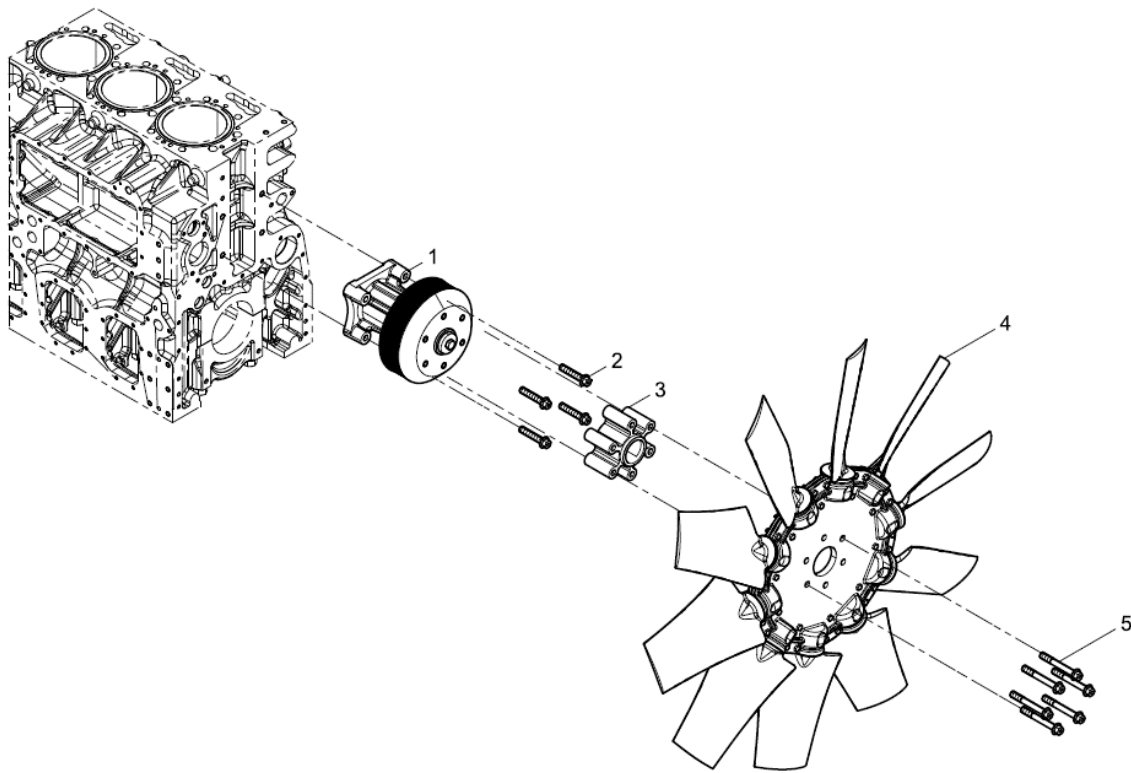

Figure 15. Fan Pulley Assembly
1. Remove the bolts (Figure 15, Item 5).
2. Remove the fan (Figure 15 Item 4) and the spacer (Figure 15, Item 3).
3. Remove the bolts (Figure 15, Item 2).
4. Remove the fan pulley bracket (Figure 15, Item 1).
1. Place the fan pulley bracket (Figure 15, Item 1) onto the front of the engine.
2. Insert and torque the bolts (Figure 15, Item 2).
3. Place the spacer (Figure 15, Item 3) onto the pulley and place the fan (Figure 15, Item 4) in front of the spacer.
4. Insert and torque the bolts (Figure 15, Item 5).